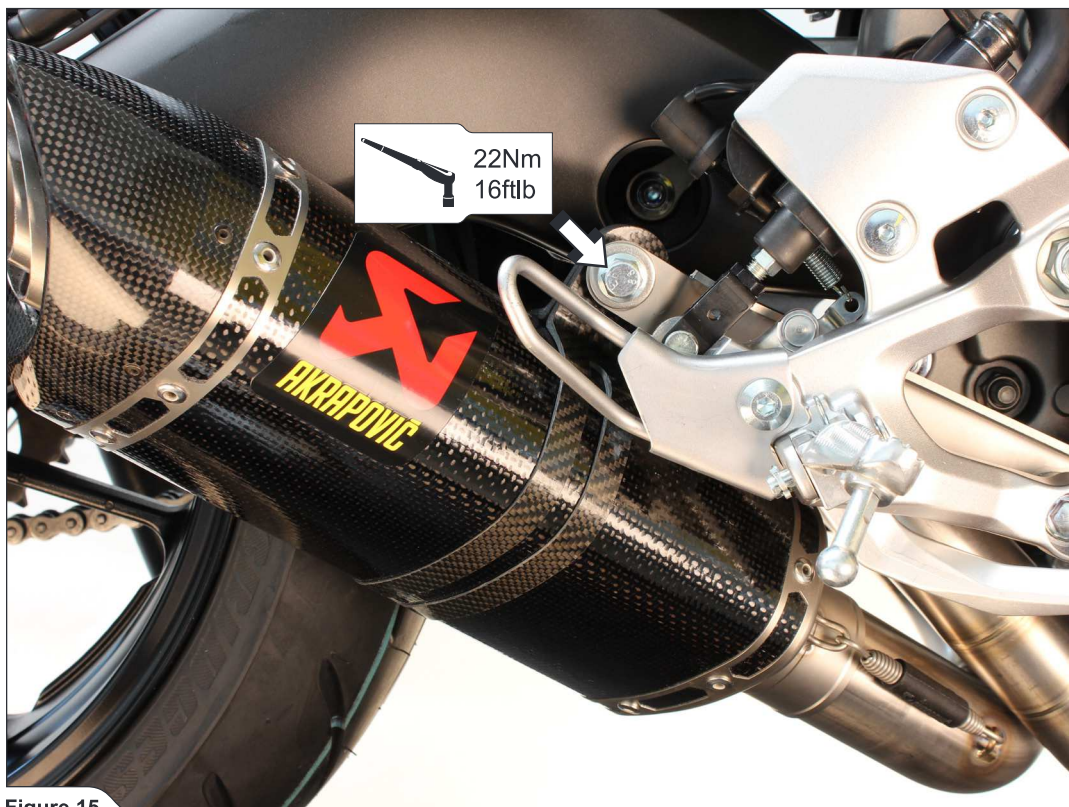

Figure 15
7. Align the muffler in respect to the swing arm and tighten the clamp's bolt to the specified torque (Figure 15).